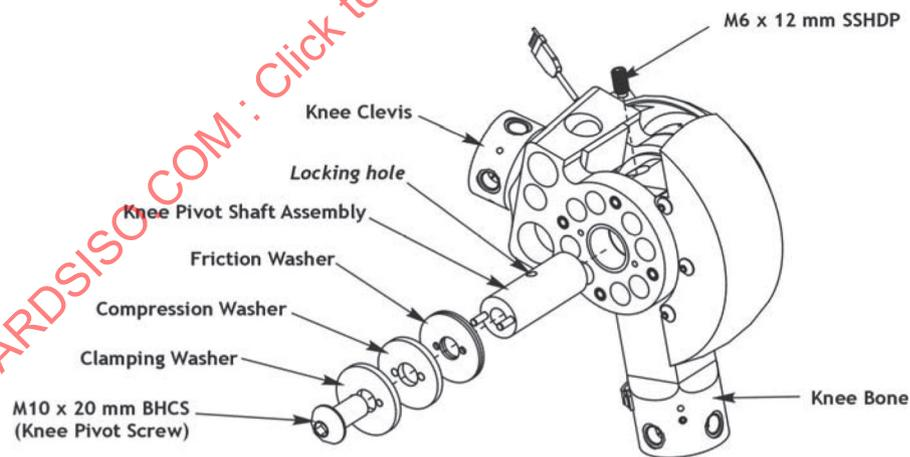

Figure A.86 — Leg joint adjustments
- The SSHDP that locks the pivot shaft assembly in place in the knee bone shall be correctly installed. The SSHDP M6 shown in Figure A.86 shall be installed so that the tip is in the locking hole at the middle of the pivot shaft.